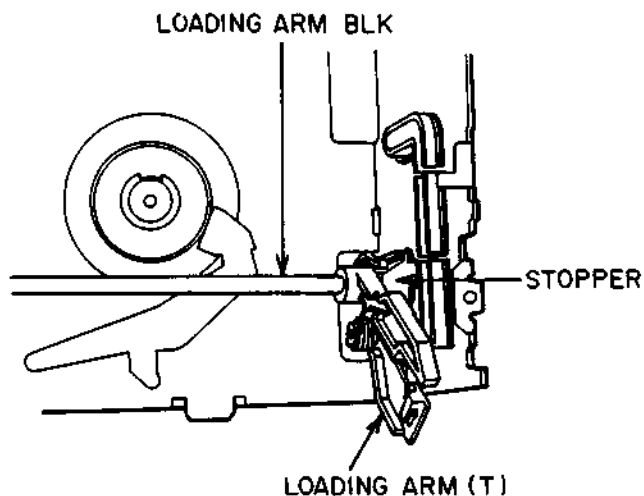

Fig. 4-2
- 1) Release the stopper on the right side end of the LOADING ARM BLK's shaft (Refer Fig.4-2) by pressing the stopper tab with a flat head (—) screwdriver. Then remove the shaft's right end from the bracket.